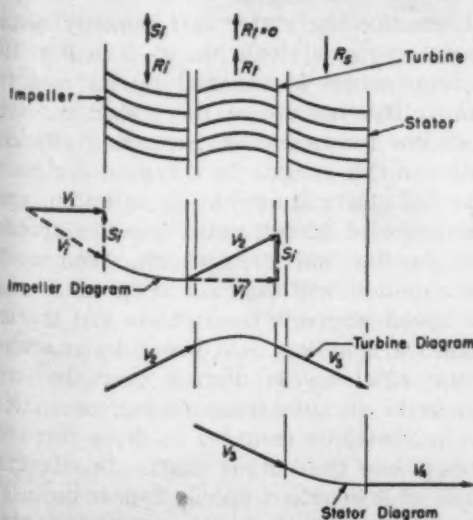
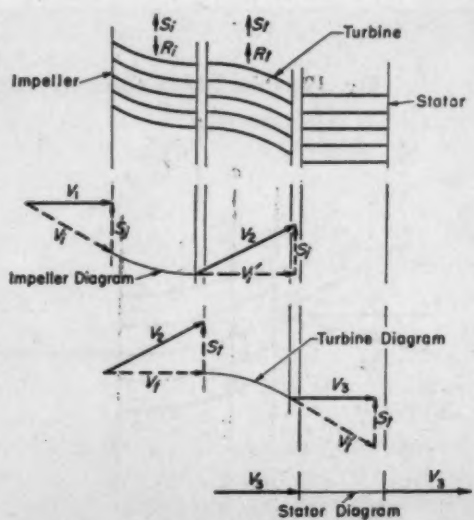

Fig. 17 — Left — Stalled fluid torque converter, showing impeller, turbine and stator diagrams
Fig. 18 — Right — Diagram for torque converter when running at impeller speed
**TORQUE CONVERTERS:** It was pointed out in the discussion of the fluid coupling that the addition of a third element made possible torque multiplication. Referring to Fig. 14, if the turbine vanes continued curving until  $\Delta V$  over the turbine vanes equaled say,  $2S$ , the thrust on the turbine would be twice that on the impeller and twice the torque would be developed at the output shaft. However, the discharge  $V_3$  from the turbine would not coincide in direction with  $V_1$ . Coincidence could be brought about by adding stator vanes, as in Fig. 17 which illustrates a torque converter with stalled turbine. As before, the impeller vanes are mounted on the periphery of a wheel keyed to the input shaft and the turbine similarly keyed to the output shaft. The stator vanes are mounted on a third wheel either anchored to the case in some fashion, or keyed to a third (hollow) shaft, coaxial with the other two and anchored.
Substantially the same relationships will exist in the torque as before. Input torque requirements will vary as the square of input speed. Output torque with turbine stalled will also vary as the square of input speed so that the torque ratio is constant, a conclusion also apparent from consideration of the vector analysis of Fig. 17.
The other speed extreme for the converter—the turbine running at impeller speed—is shown in Fig. 18. The vector diagram appears the same as for the coupling, Fig. 15, in fact is the same except for the stator unit through which the fluid flows without change. Theoretically the converter is now a coupling, and the discussion of the coupling at low slip applies. However, the fluid friction and therefore the slip will be much greater because of the flow through the stator vanes.
In Fig. 18 the stator vanes are shown as straight, whereas in an actual unit the stator vanes would, of course, be curved; also the turbine vanes would have more curvature than the impeller, somewhat as in Fig. 17. It is then apparent that with an actual converter running as a coupling, vane entrance losses
Recent years have seen the introduction of an innovation in stator design that has greatly improved coupling range operation. Fig. 19 illustrates fluid flow into the stator only. Under stall conditions, Fig. 17, the flow into the vanes is along  $V_2$ , and the reaction  $R_s$  is developed. At coupling position, Fig. 18, the flow is along  $V_1$  and no reaction is developed. At in-between conditions the flow is in a direction between  $V_1$  and  $V_2$  and a reaction in direction  $R_s$ , but less in value exists. When the fluid enters at or near the  $V_1$  direction the curved vanes force an abrupt change in flow direction to  $V_2$ , with heavy entrance losses. Now, if the stator could be caused to rotate in the direction of the turbine and impeller, the relative flow into the vanes would be inclined more favorably for entrance. This can be permitted by mounting the stator wheel on a one-direction or free-wheeling clutch, so that rotation in the direction  $R_s$  is prevented, but allowed in the reverse direction. Then if the direction of discharge from the turbine is such as to afford a small component in reverse direction to  $R_s$ , as  $V_3$ , for example, the reaction on the stator will be reversed and it will free-wheel along with the turbine wheel, with substantial reduction in entrance losses.
In actual practice the stator is commonly divided into two parts—perhaps along line  $a-b$  in Fig. 19—and each stator wheel is engaged by its own free wheeling unit. By this device the stator curvature is reduced at low torque ratios, improving efficiency characteristics in this range. In a typical design, for example, the full stator is used up to an output speed of about 65 per cent of full rated impeller speed at which point the first unit free wheels. The smaller curvature stator unit will then act alone up to about 90 per cent speed where it free wheels and the converter becomes a coupling. On some designs where the maximum efficiency is desired over the entire range, such as in an auto transmission, one part of the turbine may also be mounted to drive through a free-wheel unit into the output shaft. In effect, the turbine vanes at low output speeds appear as in Fig. 17, while at higher speeds the curvature changes to